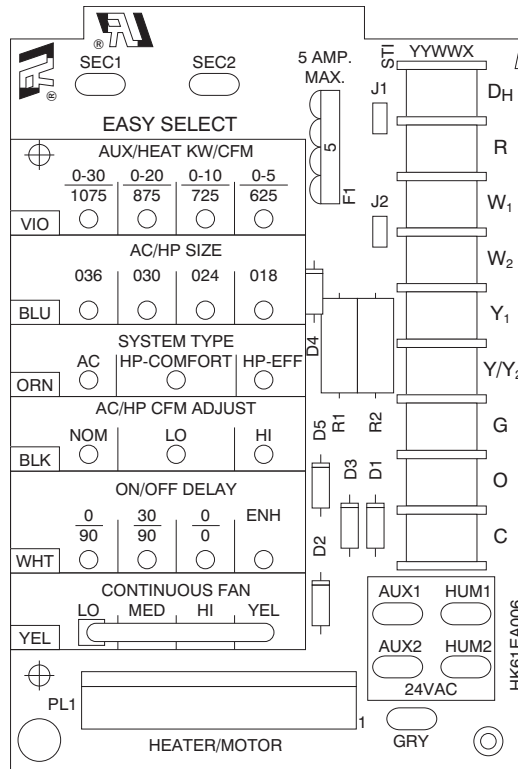

Fig. 7 - Easy Select Board
NOTE: Layout of actual PCB is depicted in Fig.7.
The Easy Select taps are used by installer to configure system. The ECM2.3/5.0 uses selected taps to modify its operation to a pre-programmed table of airflows. Airflows are based on system size and mode of operation and those airflows are modified in response to other inputs such as the need for de-humidification. (See Fig. 7.)
The installer must select the auxiliary heat airflow approved for application with kW size heater installed. Each select pin is marked with a range of heaters for which airflow (also marked) is approved. For increased comfort select the narrowest kW range matching the heater size, for example, 0-10 for a 10-kW heater. This airflow must be greater than the minimum CFM for electric heater application with the size system installed for safe and continuous operation. Note that airflow marked is the airflow which will be supplied in emergency heat mode and heating mode on air conditioners when electric heat is primary heating source. To ensure safe heater operation in heat-pump heating mode, when electric heaters are energized, the ECM2.3/5.0 will run the higher of heat pump airflow and electric heater airflow. The factory default selection is largest heater range approved. (See Fig. 7.)
The factory default setting for air conditioner or heat pump size is largest unit meant for application with model of fan coil purchased. The installer needs to select air conditioner or heat pump size to ensure that airflow delivered falls within proper range for size of unit installed in all operational modes. (See Fig. 7.)
The factory setting is AC. (See Fig. 7.)
Select low, nominal, or high airflow. The factory selection is NOM. The adjust selections HI/LO will regulate airflow supplied for cooling and heat pump heating modes only, +15 percent and -10 percent respectively. The adjust selection options are provided to adjust airflow supplied to meet individual installation needs for such things as noise, comfort, and humidity removal. (See Fig. 7.)
Select desired time delay profile. Four motor-operation delay profiles are provided to customize and enhance system operation. (See Fig. 7.) The selection options are:
Select desired continuous-fan profile LO, MED, or HI. Airflow are provided to customize and enhance the continuous fan functions. (See Fig. 7.) The possible selections are:
1. Check transformer and thermostat wiring. (See Fig. 7.) Be sure transformer is not shorting out because thermostat wires are miswired.
2. Check wiring of relays. (See Fig. 7.) Be sure low-voltage and high-voltage wiring are connected to proper sequencers.